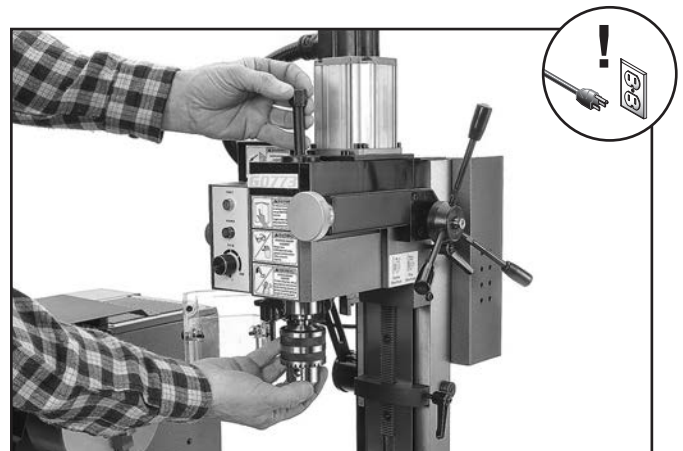

Figure 90. Threading drawbar into tooling.
4. Working from the top, thread drawbar by hand into tooling until snug (see **Figure 90**).